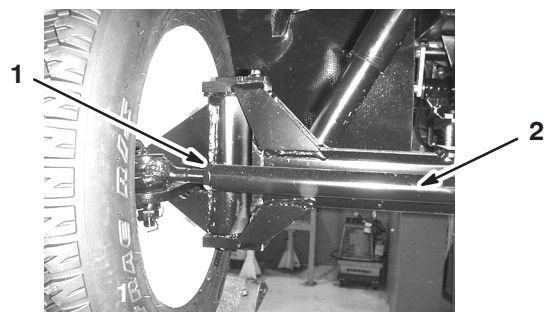

Figure 51
3. If the measurement does not fall within the specified range, loosen the jam nuts at both ends of the tie rod (Fig. 51).